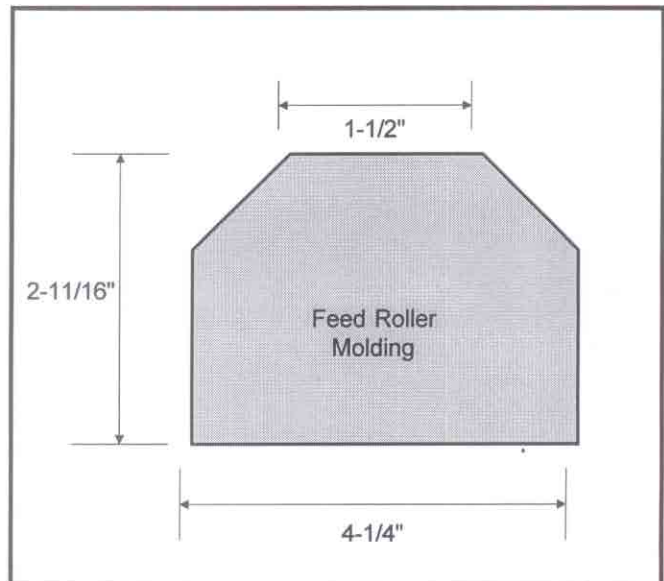

Fig. 15A
1. Following the method for setting the feed rollers when planing (previously explained in this manual), make another wooden block $5/16$ " lower than the cutterhead block. See Fig. 15A.